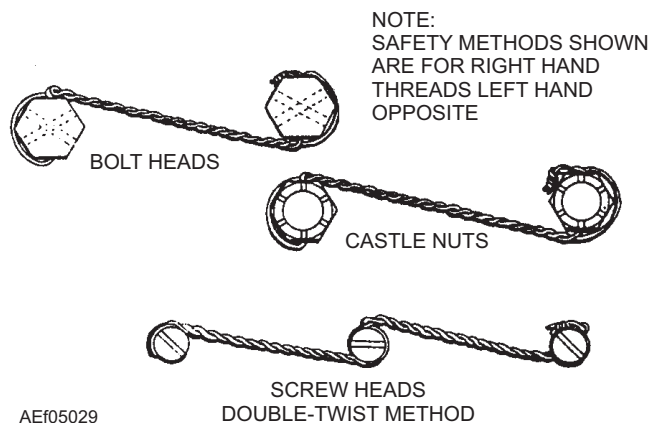

Figure 5-29.—Double-twist method of safety tying.
**DOUBLE-TWIST METHOD.**—The most common method of safety tying nuts, bolts, and screws is the *double-twist method*. You can do this by hand or with special safety wire pliers. (See fig. 5-29) If you make the twists in safety wire by hand without pliers, use pliers to make the final few twists so there is enough tension to secure the ends of the wire properly. Install and twist safety wire so that the loop around the head stays down and does not tend to come up over the bolt head. When you twist the safety wire together, be extremely careful to ensure it is tight, but do not overstress it to the point where the wire will break under a slight load or vibration. After you make the final twists of safety wire with pliers, cut off the nicked loose ends and bend the end of the wire around the bolt